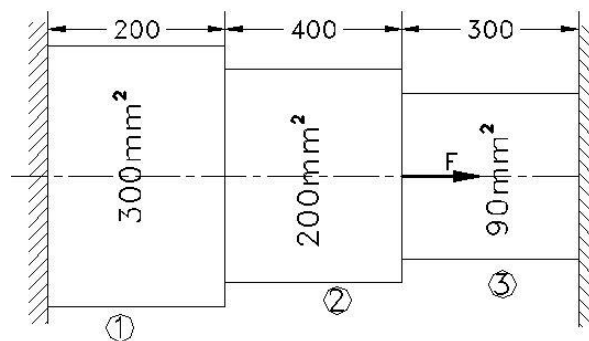

Figure 2
- (b) An axial stepped bar is subjected to a load of $F = 50 \text{ kN}$ as shown in figure 2 below. If the modulus of elasticity of the material is 200 GPa , determine the displacements and stresses of each section. **07**